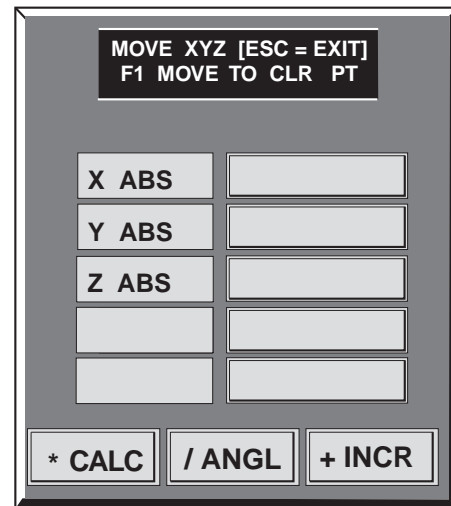

Figure G-13
Press the 3 key (3 MOVE XYZ) to get to the Figure G-13 dialog box;
Press the 3 key (3 MOVE XYZ) to get Figure G-13.